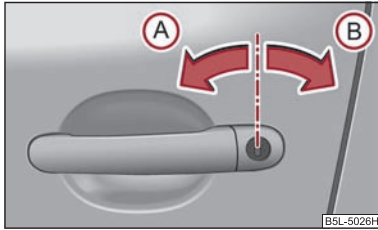

Fig. 25 Turning the key for unlocking and locking the vehicle
- Turn the key in the locking cylinder of the driver's door in the direction of travel (unlock position) **(A)** ⇒ fig. 25.
- Turn the key in the locking cylinder of the driver's door in the opposite direction of travel (lock position) **(B)** ⇒ fig. 25.